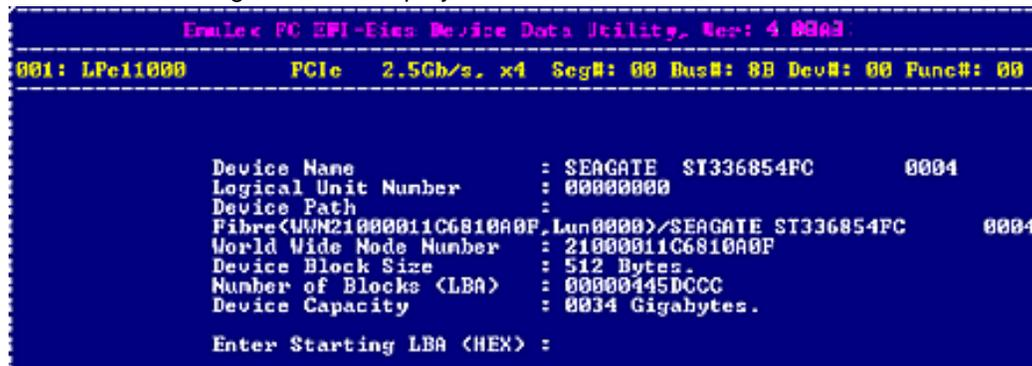

Figure 112: Device Data screen
2. Use the up/down arrow keys to highlight an attached block I/O device and press <Enter>. A screen similar to Figure 112 is displayed.